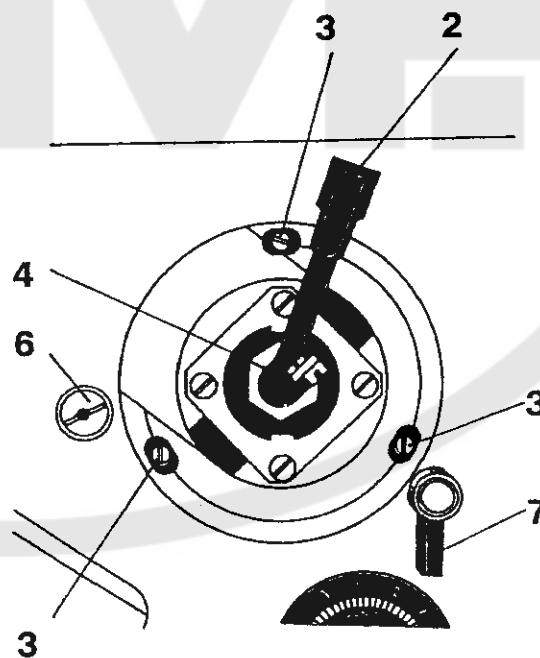

Figure 10
For the stepless tilting of the zigzag stitch bracket, the inlay (4) of the body of the zigzag stitch mechanism contains the braking roller (5) with the spring (6) and with the adjustment screw (7). Turning the screw to the right increases the pressure exerted on the roller and, consequently, the force required to adjust the stitch width. A mechanism actuated by the lever (7, Fig. 10) serving to fix the adjusted stitch width must be turned to the left prior to proceeding to the stitch width adjustment which is carried out by the lever (2, Fig. 10) whose extreme left position, defined by a stop, produces the zero zigzag stitch width that can be increased up to 10 mm by displacing the lever to the right. The number marking on the cover (6, Fig. 7) shows the approximative stitch width value at each lever position. To adjust the control force, first take the complete zigzag stitch mechanism out of the machine arm column. For this purpose, screw out the two screws (7, Fig. 7) from the body of the mechanism, remove the cover (6, Fig. 7), screw out the three attachment screws (3, Fig. 10) from the body of the zigzag stitch mechanism, then screw out the securing screw (37, Table 10) on the pin (40), remove the pin from the guiding (43), loosen the fixing lever (51) and take the pin (42) out of engagement, thus releasing the body of the zigzag stitch mechanism that can be then taken out of the machine arm. For the assembly, proceed inversely.